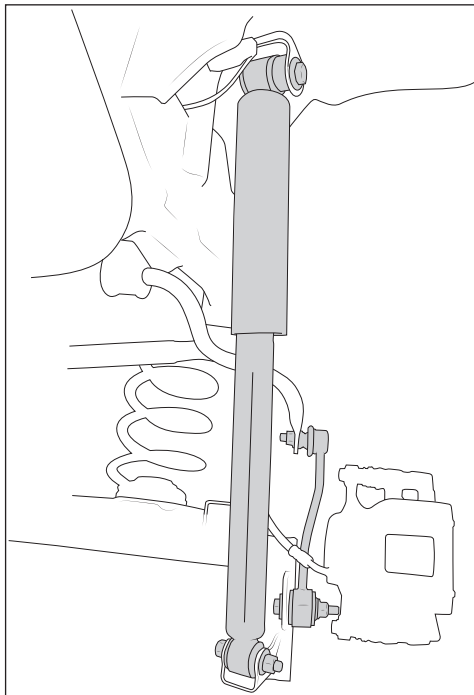
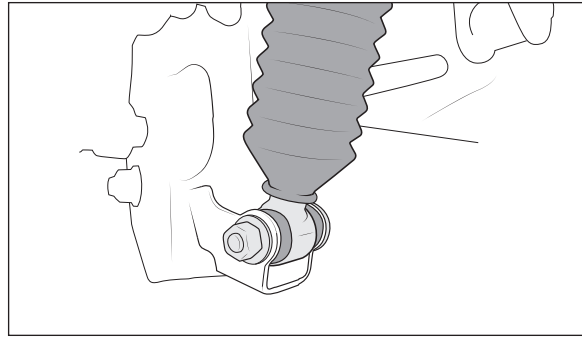

Figure 2
Figure 10
2. Remove the shocks and save hardware (Fig. 2).
Note the orientation of the end links, the new end links will be installed in the same way (see Fig. 2).
12. Re-install lower shock nut and bolt and tighten* (Fig 10). Install AEV sway bar end links (the longer of the 2 versions supplied in the kit) using factory hardware and tighten* (see Fig 2).